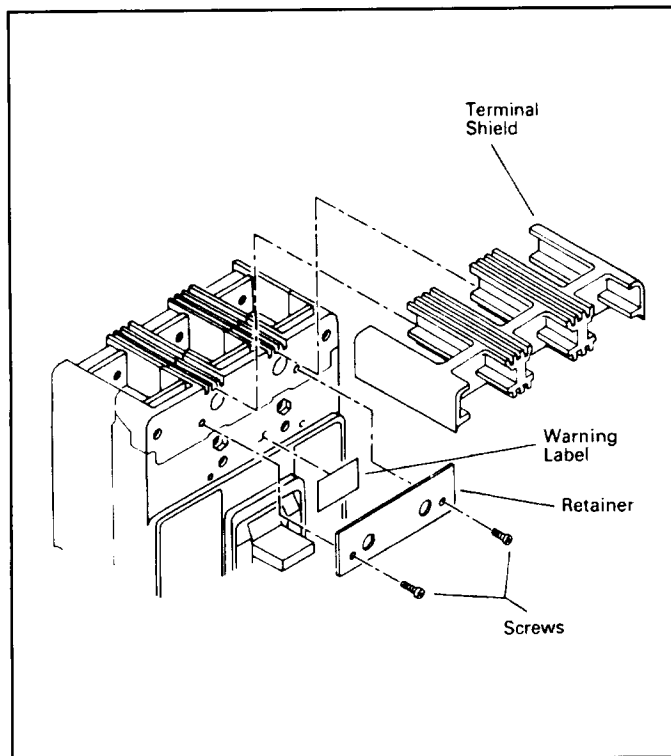

Fig. 2-4 Installation of Terminal Shields and Warning Label
- 2-10. When step-type terminals (Cat. No. TA603LD) are used terminal shields (supplied with terminals) must be installed on the MCP (Fig. 2-4) and secured using retainer and screws included with the terminal shield kit. Warning label supplied with the kit must be attached to the MCP cover.